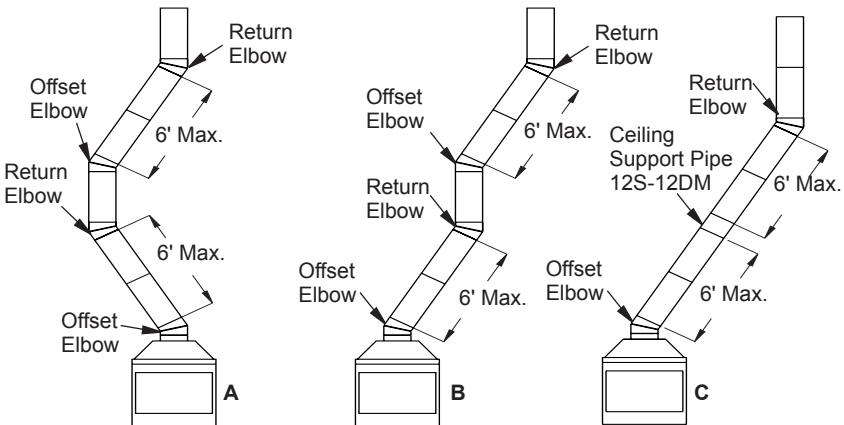

Figure 7 - Typical Offset Terminations
1. To achieve desired offset, you may install combinations of 12", 18", 24", 36" and 48" length of double wall pipe (see offset chart and Figure 7).
3. Maximum length of pipe between supports (return elbow or 12S-12DM) is 6' of angle run. Maximum of two 6' angle run sections per chimney system (see Figure 7).